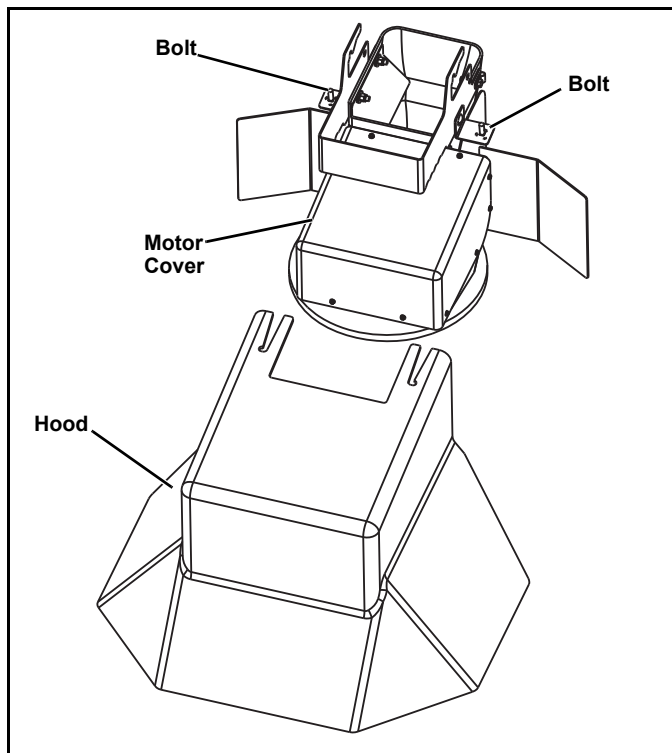
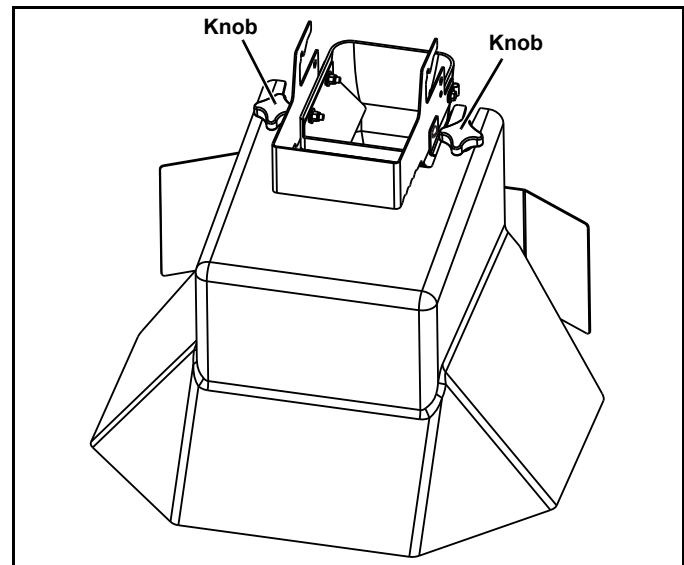

Figure 2-4
Figure 2-5
1. Mount Drop Spreader Shroud onto the motor spinner assembly. (See Figure 2-4 and Figure 2-5.) Refer to Drop Spreader installation instructions (97102152) for further details.